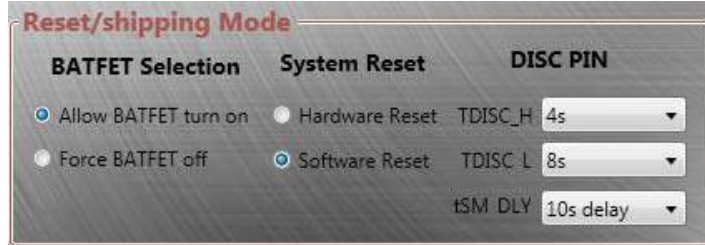

**Figure 23: OTG Current Limit Setting**
6. Set the OTG current limit (see Figure 23). Its range is 0.5A to 3.0A, and the default value is 0.5A.